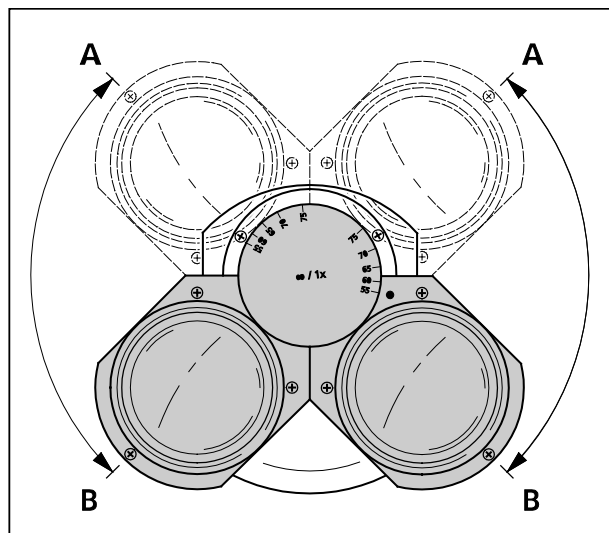

Figure 3-45 Setting the viewing height at the binocular tube
- To customize the viewing height to every person, swing the eyepiece sockets either up (Figure 3-45/A) or down (Figure 3-45/B).